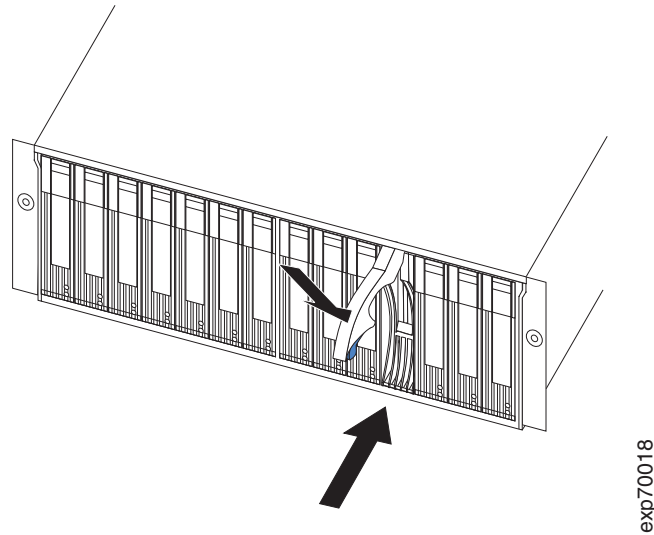

Figure 19. Replacing hot-swap hard disk drives
2. Push the tray handle down into the closed (latched) position as shown in Figure 19.